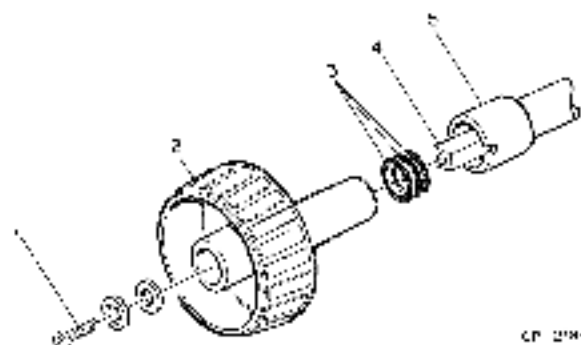

Figure 7-9 Installation of O Ring on Tractor Drive Shaft
Use Figures 7-9 and 7-10 and the following procedure as installation guides.
2. Remove the paper advance knob (item 2, in Figure 7-9) by unscrewing the #6 screw (item 1) from the center of the knob.